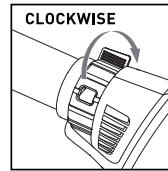

Fig.8
- Soft Flame (Approx. 500°C): Please rotate the **Air Control Ring** clockwise. (Fig.8)